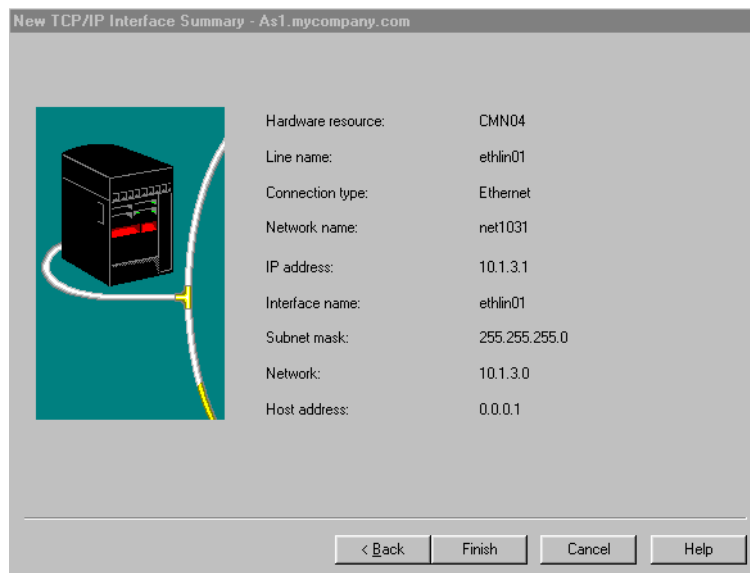

Figure 322. New TCP/IP Interface Summary
14. From the Start TCP/IP Interface window, you identify whether you want this TCP/IP interface started whenever you start TCP/IP and whether you want this TCP/IP interface to start now. If you choose to start the TCP/IP interface here, the interface begins testing when you click **Next**. After a successful test, the New TCP/IP Interface Summary window (Figure 322) appears.